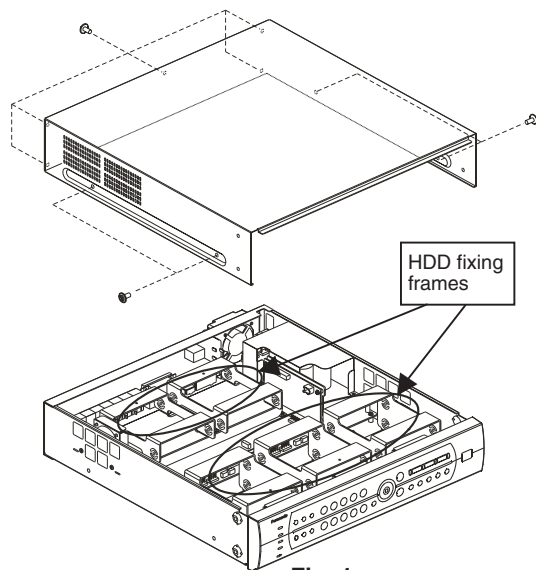

Fig. 1
Remove four screws on the side panel and five screws at the rear to remove the top cover (see Fig. 1).
9. Replace the top cover. (Refer to Fig. 1)